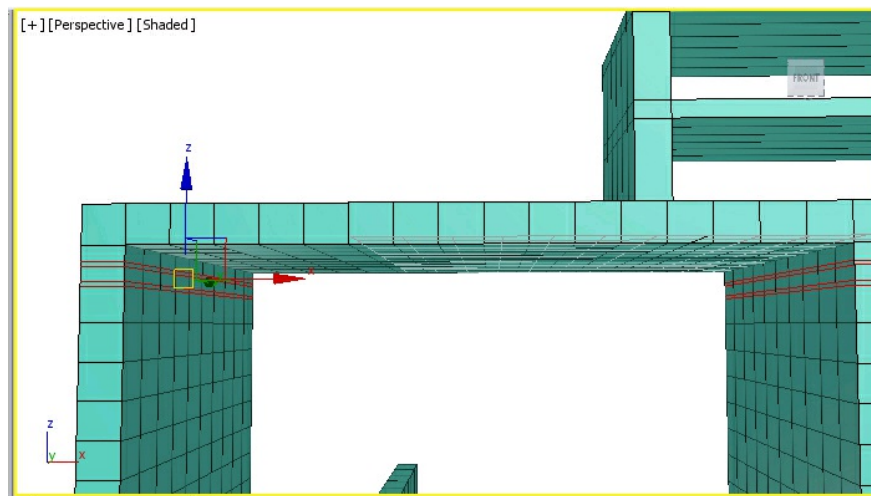

Figure 9-87 Two edge loops chamfered
5. Choose the **Chamfer Settings** button from the **Chamfer** drop-down in the **Edges** panel; the **Chamfer** caddy control is displayed in the viewport. In this caddy control, set the value **0.5** in the **Edge Chamfer Amount** spinner and choose the **OK** button; the selected edge loops are chamfered, as shown in Figure 9-87.